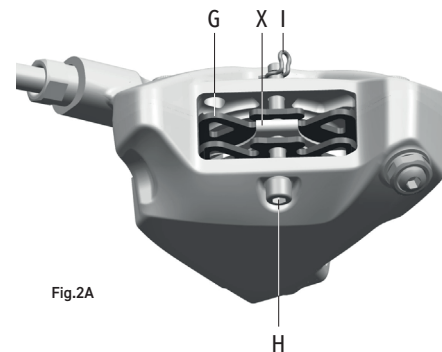

Fig.2A
- Pad (G - Fig.2A)
- Spring (X - Fig.2A)
- Brake pad locking screw (H - Fig.2A)
- Brake pad screw cotter pin (I - Fig.2A)